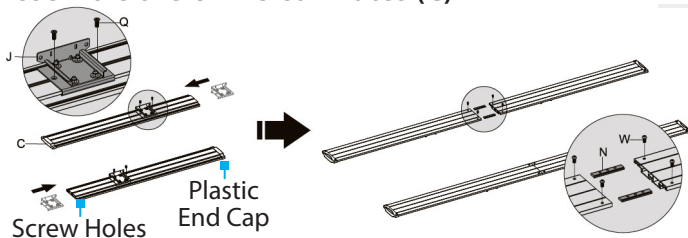

Figure 6
1. Place the **Universal Plates (C)** next to one another on a clean and flat surface with the **Plastic End Caps** facing the outer edges and the **Screw Holes** facing down. (Figure 6)
2. Slide one **Connector (J)** into each **Universal Plate (C)**.